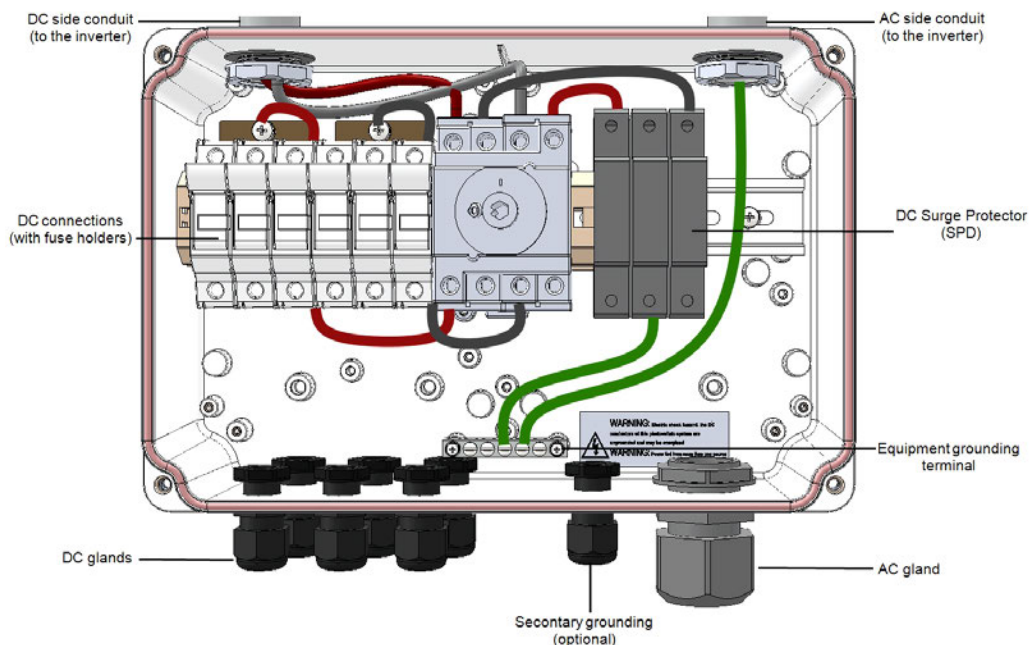

Figure 31: Inside the DC Safety Unit with fuses
6. Open the AC cable gland and insert the cable through the gland (see Figure 31).